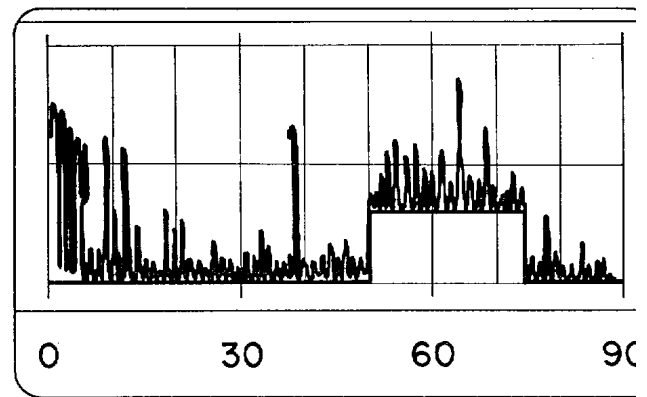

Figure 2-19. MONITOR display pattern, typical video signal.
(2) When ready to map, press the RECORDER control MAP switch. The green MAP lamp will light and the blue STBY lamp will extinguish.
(3) Observe the FOOTAGE REMAINING indicator to see that the film-drive motor is operating. Observe the display on the MONITOR crt to see that the video signal is present. Figure 2-19 shows a typical video presentation. The range pedestal is obtained with the RECORDER control RANGE switch at 25, the RANGE DELAY switch at 50, and the RADAR control DEGREES DRIFT control at 0. The video display will vary, depending on the terrain being mapped and the type of mission being flown.
(4) To stop mapping, press the RECORDER control STBY switch. The blue STBY lamp will light and the green MAP lamp will extinguish.